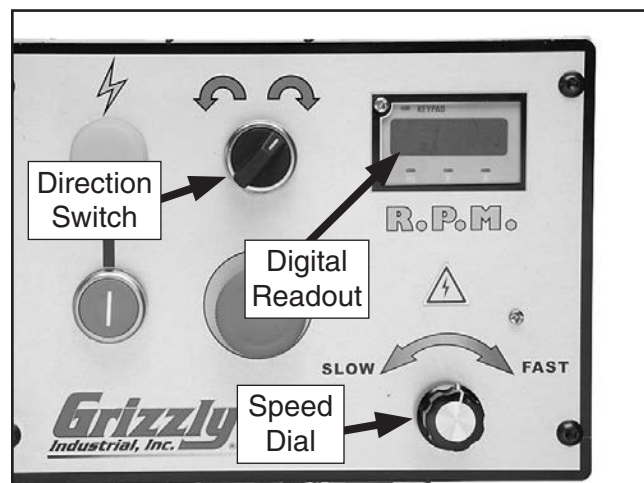

Figure 23. Spindle direction switch, speed dial, and digital readout.
2. Use the direction switch to select the direction of spindle rotation, turn the spindle **ON**, then rotate the speed dial until the calculated spindle speed is displayed on the digital readout on the control panel (see **Figure 23**).